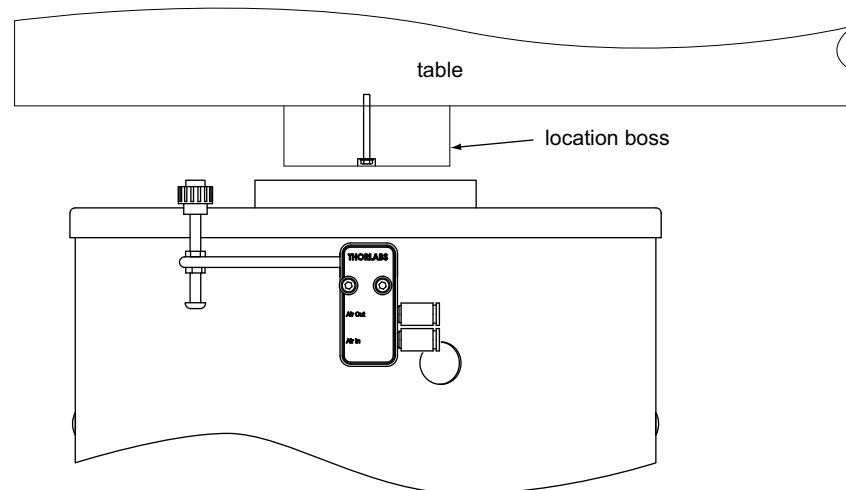

Fig. 3.7 Attaching the plastic feet
- 3) Using the M6 (1/4-20 UNC) bolts supplied, attach the 4 location bosses to the underside of the table – see Fig. 3.7.
- 4) Manoeuvre the fork-lift truck until the table is over the isolators. Carefully lower the table, ensuring that the feet are correctly located inside the pistons – Fig. 3.7.